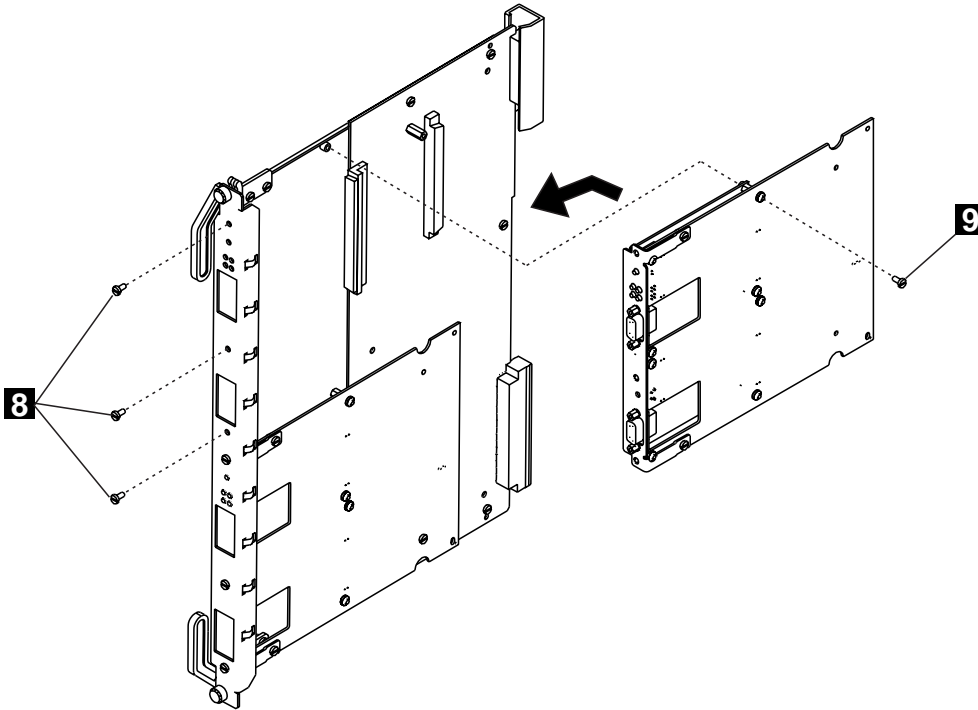

Figure 11. Reattaching the Motherboard
- \_\_\_ **10** Reattach the motherboard to the module using the four screws ( **8** and **9** in Figure 11) that originally held the motherboard.